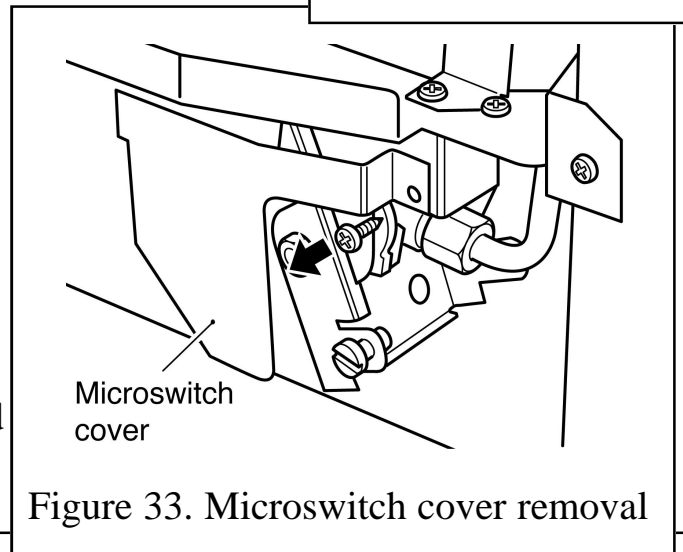

Figure 33. Microswitch cover removal
(See figures 33 & 34).
2. Detach the microswitch cover by removing one screw and pulling clear of the location lug (See figure 33).
(See figures 33, 34 & 35).